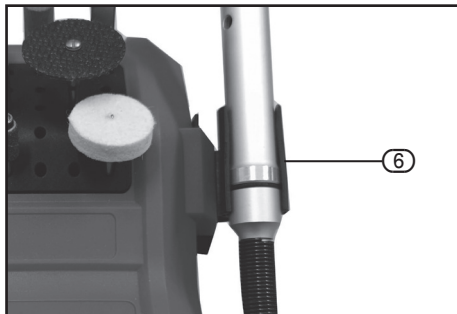

FIG.1
8.1 CONNECTING THE PEN HOLDER AND FLEX SHAFT TO THE ENGRAVER/GRINDER CONSOLE – FIGS.1 – 2
- Slide the flange on the pen holder (6) into the opening on the side of the engraver/grinder console until it is fully seated.